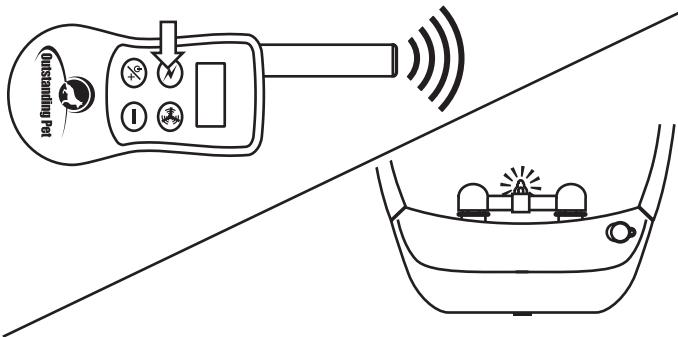

figure 5 – Receiver Collar Test Light Turning On
2. Press the **button** on the Remote Transmitter, the Test Light will turn on (*figure 5*).